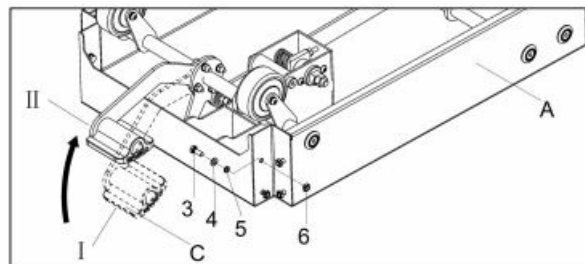

Fig.5
- **b.** Pull the foot pedal (C) to change it from state (I) to state (II) as seen in Fig.5.
- To install the legs (J), preinstall the fasteners (#3, #4, #5, and #6) into the sixteen holes of the base platform (A) as shown in Fig.5.
- Each corner will require 4 sets of fasteners (16 in total). Square nut (#6) will be exposed to accept the legs (J).